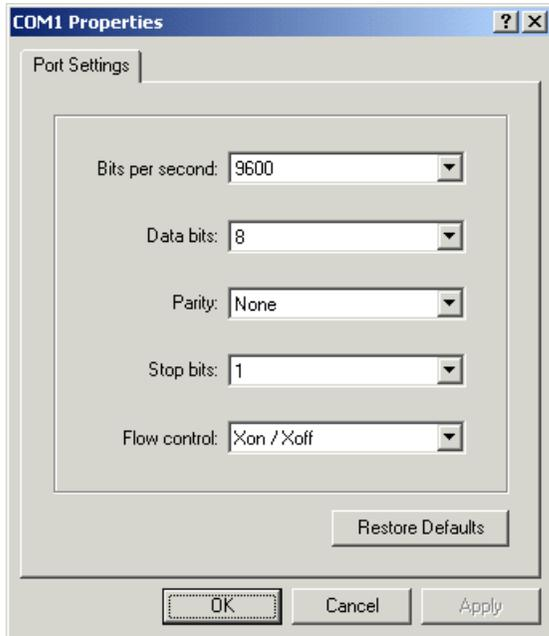

Figure 5-3 COM1 Properties window
5. This window lets you define how you wish to connect. If you are not using COM1, specify the COM port to which you connected the null modem cable. Click **OK** to display the COM port Properties window as shown in Figure 5-3: